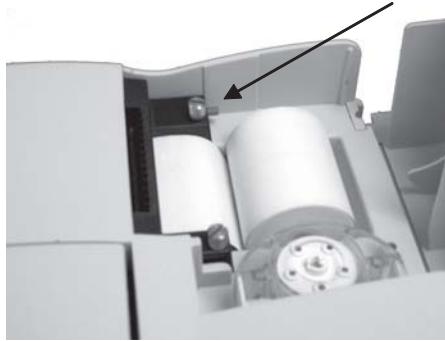

Fig. 6-29 Paper Advance Button
2. Press the paper advance button to eject any remaining paper (Fig. 6-29).
6. To advance paper after the initial installation, press the red paper advance button located on the left side of the printer (See Fig. 6-29).